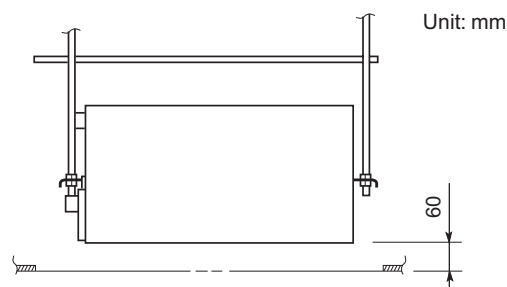

Fig. 2-181
- The distance between the unit and the opening in the ceiling and the distance between the bottom surface of the ceiling and the bottom surface of the flange of the unit should follow the dimensions given in Fig. 2-181. Use the supplied installation gauge to check.